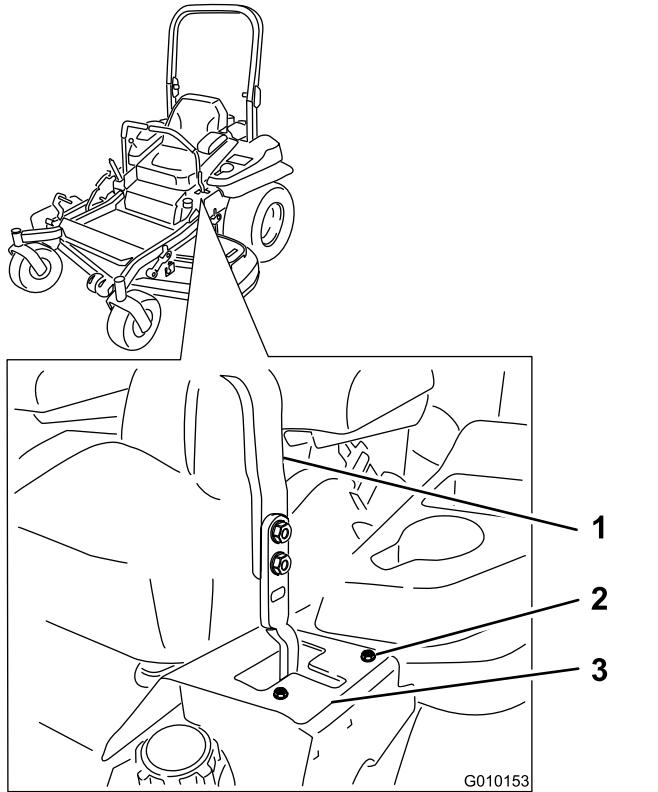

Figure 62
- If the machine tracks to the right, loosen the bolts and adjust the left stop plate rearward on the left T-slot until the machine tracks straight (Figure 62).
- If the machine tracks to the left, loosen the bolts and adjust the right stop plate rearward on the right T-slot until the machine tracks straight (Figure 62).
8. Tighten the stop plate (Figure 62).